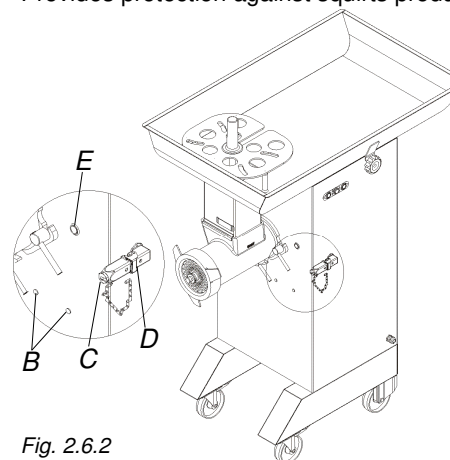
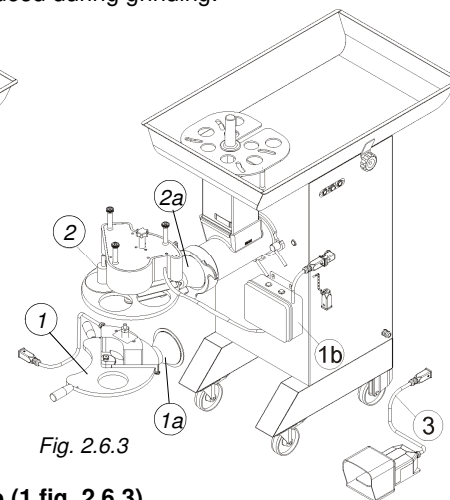

Fig. 2.6.2
Fig. 2.6.3
2.6.2 Semi-automatic burger machine (1 fig. 2.6.3)
- a part that is firmly fastened on the head by means of the head's ring nut (1a fig. 2.6.3);
- a male ILME connector coming out of the box that couples with its correspondent female (D fig. 2.6.2) present on the machine.
2.6.3 Automatic burger machine (2 fig. 2.6.3)
- a part that is firmly fastened on the head by means of the head's ring nut (2a fig. 2.6.3);
- an electric box (1b fig. 2.6.3) fastened onto the machine with two pegs (B fig. 2.6.2);
2.6.4 Pedal control (3 fig. 2.6.3)
Once you are done using the accessory, to ensure standard machine operation, it is important to place cap C back in its seat as shown in figure 2.6.2.